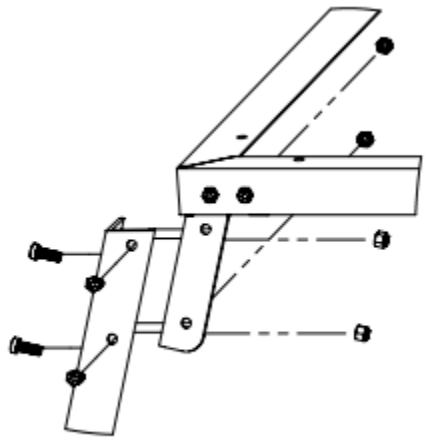

Fig 2
3. Attach legs to the leg anchors on the base with 3/8 x 1" bolts & 3/8" nylon lock nuts for each. Repeat this on all four legs. Do not tighten these at this time. (Fig 2)